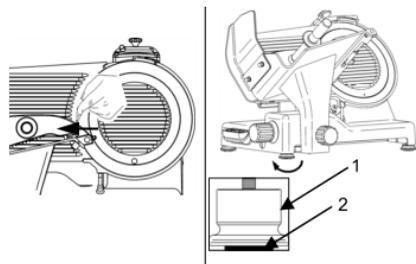

Fig. 15
- Check the compatibility of the blade with the movable slice thickness wall by swiping the finger in the direction from the blade towards the movable slice thickness wall (fig. 15), **never the other way round**.
- Screw in the supplied feet, adjust them and then attach the rubber element. (1, 2, fig. 15).